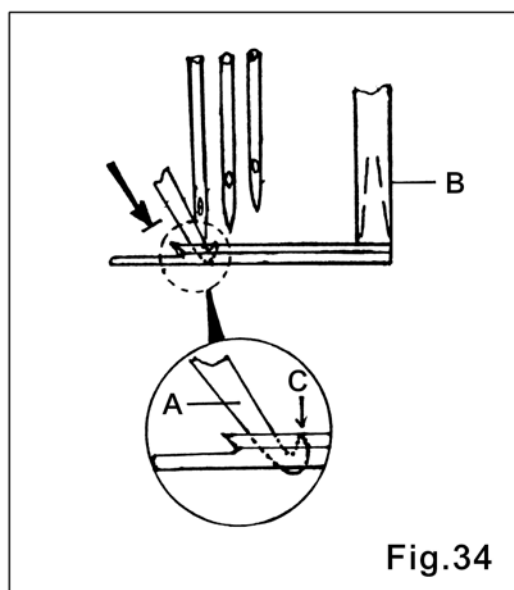

Fig.34
1. The height adjustment of Top Trimmer— When the Top Trimmer Moving Knife move to the lowest point, the tip (C) of Moving Knife align with top of Spreader (B). (Fig.34)